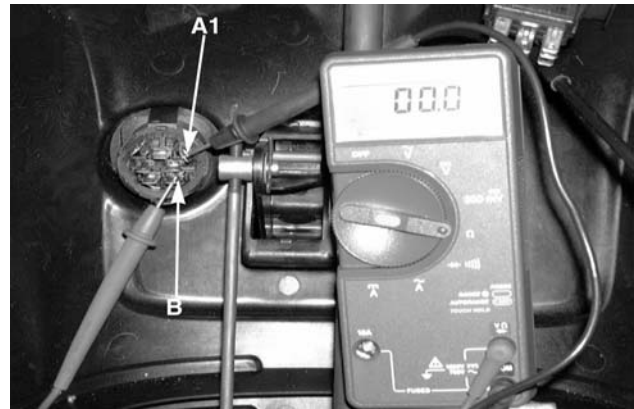

Figure 9-88
–There will be **CONTINUITY**. See Figure 9-88.